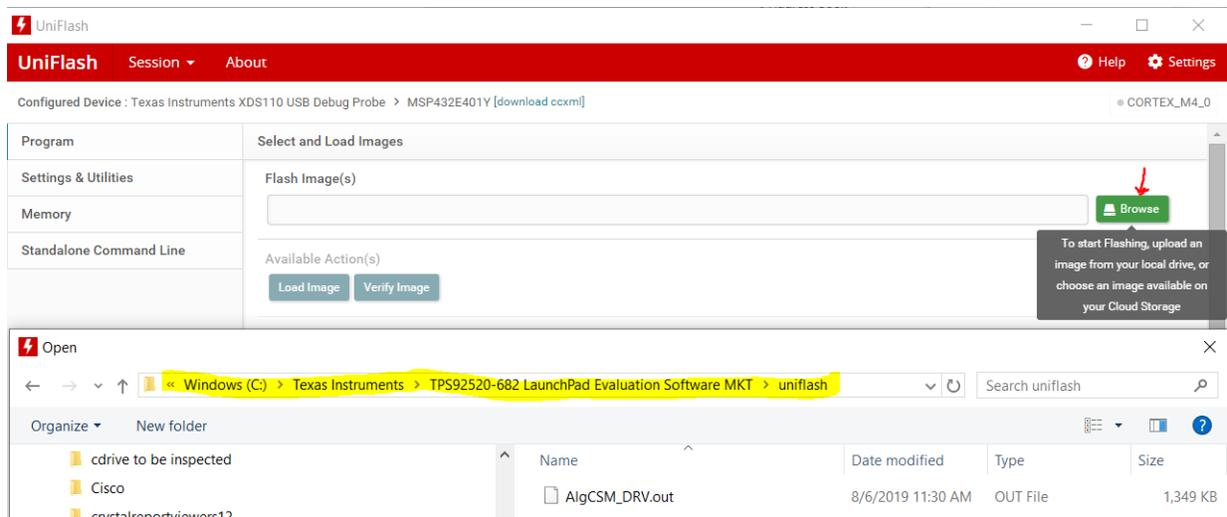

Figure 29. UniFlash Programming, Step 4
9. As shown in Figure 29, click on the 'Flash Image(s)' file field.
12. Select the **AlgCSM_DRV.out** file as shown in Figure 29.